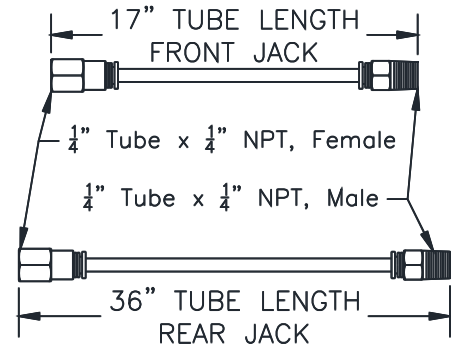

Fig. 3 – Hose Routing
- When coiled hoses are attached to the jacks with the clamps provided, cut the provided 1/4" OD plastic tubing into lengths shown in **Fig 3** and attach fittings by pushing onto end of tubing.